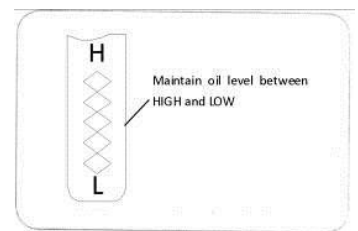

Figure 29
4. Unscrew and remove oil fill cap from oil filler tube. Note oil level. If oil reading on dipstick is below “**LOW**” mark, slowly add oil to reach “**HIGH**” level. See Figure 29.